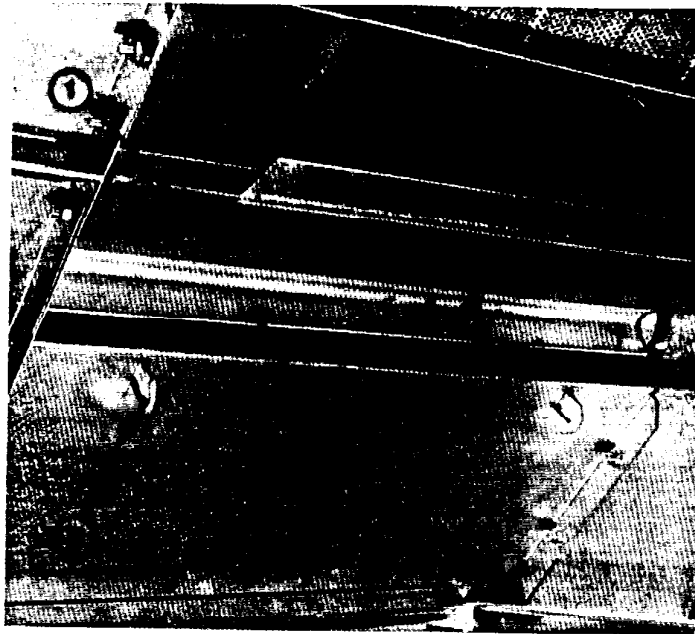

Figure 1
1. Open all metering roll access doors and inspect each compartment for any bolts, nuts or other foreign hardware. Remove any material present to prevent possible jamming of the metering rolls. (Figure 1)